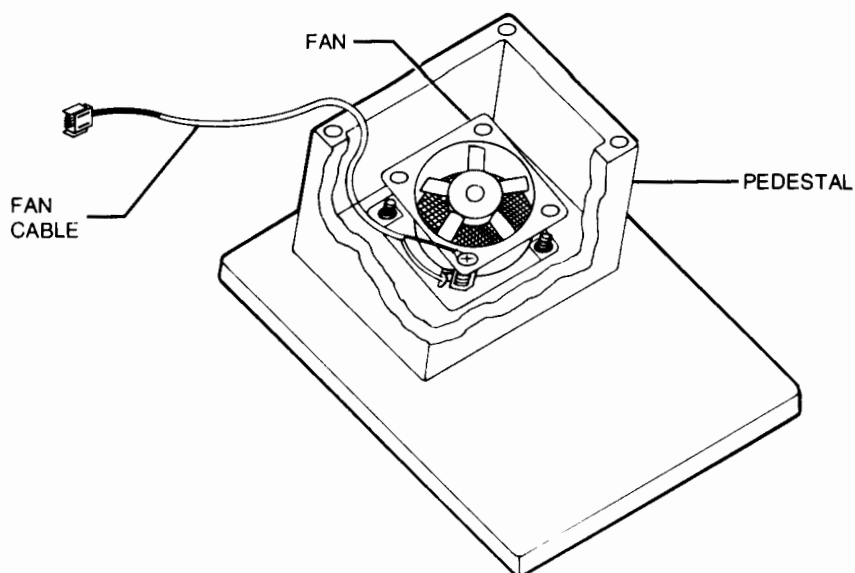

Figure 7-5. Fan Removal
4. Remove the two screws and washers securing fan to pedestal cavity (figure 7-5) and remove fan.